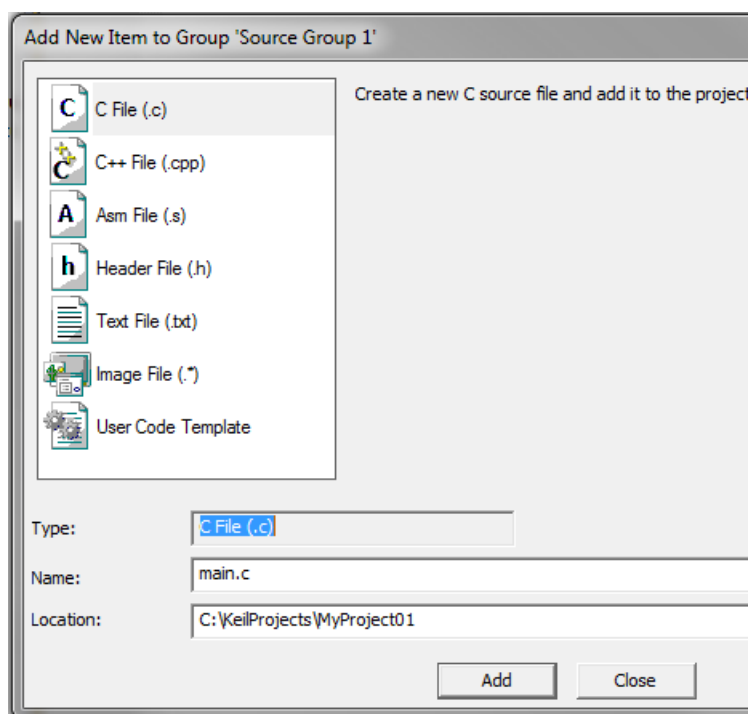

Figure 1-27. Adding new source file dialog
2. Select the C File (.c) option, and type a name of the file into the Name box, for example '*main.c*'. See Figure 1-27.